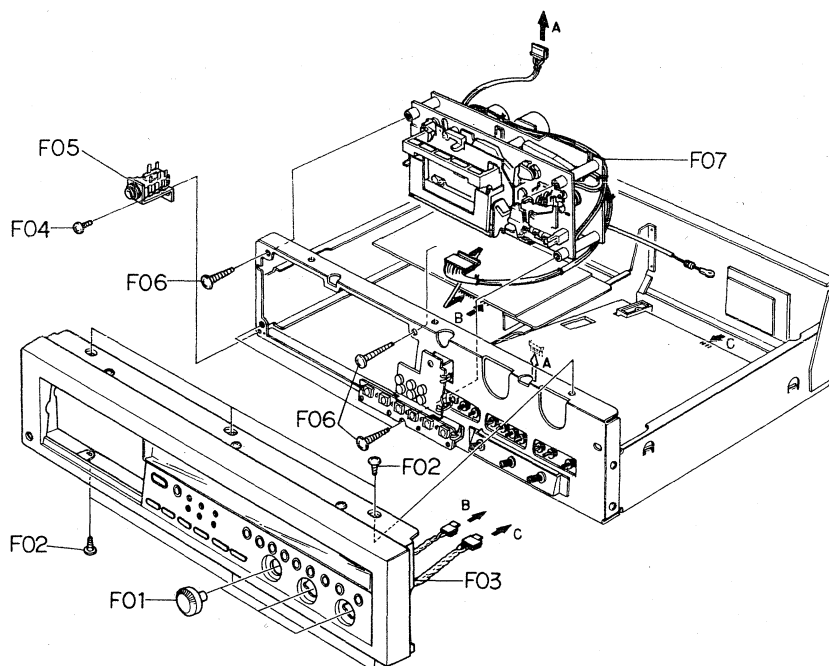

Fig. 3.2
Refer to Fig. 3.2.
- (1) Refer to Fig. 3.2. Remove Front Panel Ass'y referring to item 3.4.
- (2) Remove the Flat Cable and wires connected by wrapping from the F04 (Main P.C.B. Ass'y).
- (3) Remove F01, F02, F03 and the Record Switch Linage from the Wire Holder assembled with Record Switch, then disassemble F04 (Main P.C.B. Ass'y).
- (2) Remove the connector and the wires connected by wrapping from the F06 (Logic P.C.B. Ass'y).
- (3) Remove F05, then disassemble F06 (Logic P.C.B. Ass'y).
- (2) Remove F09, then disassemble F10 (Volume P.C.B. Ass'y).
- (2) Remove F11, then disassemble F12 (Control Switch P.C.B. Ass'y).
- (2) Remove F13, then disassemble F14 (Record Cal. P.C.B. Ass'y).
- (2) Remove F01 and F02, then disassemble F03 (Meter Ass'y).
- (1) Refer to Fig. 3.2. Remove Mechanism Ass'y referring to item 3.5.
- (2) Push the Eject Button to open the Cassette Case Ass'y.
- (3) Remove F01 then disassemble the Piston of the Pneumatic Damper Ass'y.
- (4) Remove F02 and F03 (Cassette Case Holder L Ass'y), then disassemble F04 (Cassette Case Ass'y).
- (3) Remove F05, then disassemble F06 (Cover Plate Ass'y).
- (2) Remove F07, then disassemble F08 (Tape Counter Ass'y).
- (2) Remove F01 and F02, then disassemble F03 (Flywheel Holder Ass'y).
- (3) Remove F04, then disassemble F05 (Capstan Motor Ass'y) and F06 (Capstan Belt).
- (4) Remove F07 (Supply Flywheel Ass'y), then disassemble F08 (Take-up Flywheel Ass'y).
- (5) After removing both Flywheel Assemblies, disassemble F09 (Thrust Washer 3.1 mm), F10 (Thrust Washer 2.6 mm), F11 (Flange Thrust Cap) and F12 (Flange Thrust Spring).
- (2) Remove Flywheel Holder Ass'y and both Flywheel Assemblies referring to above step 3.20.
- (3) Remove F01 and F02, then disassemble F03 (Sub Mechanism Chassis Ass'y).